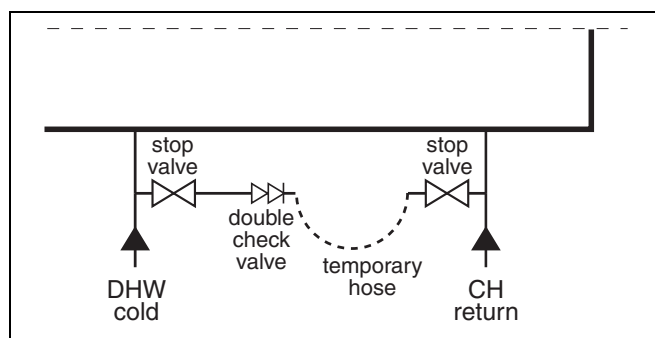

Fig. 4 Temporary hose
- Connect temporary hose (fig. 4).